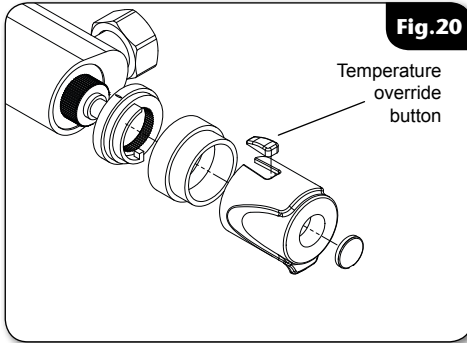

Fig.20
- Remove the end trim from the temperature control to allow access to the retaining screw. Undo the retaining screw and pull the temperature control off (**fig.20**).